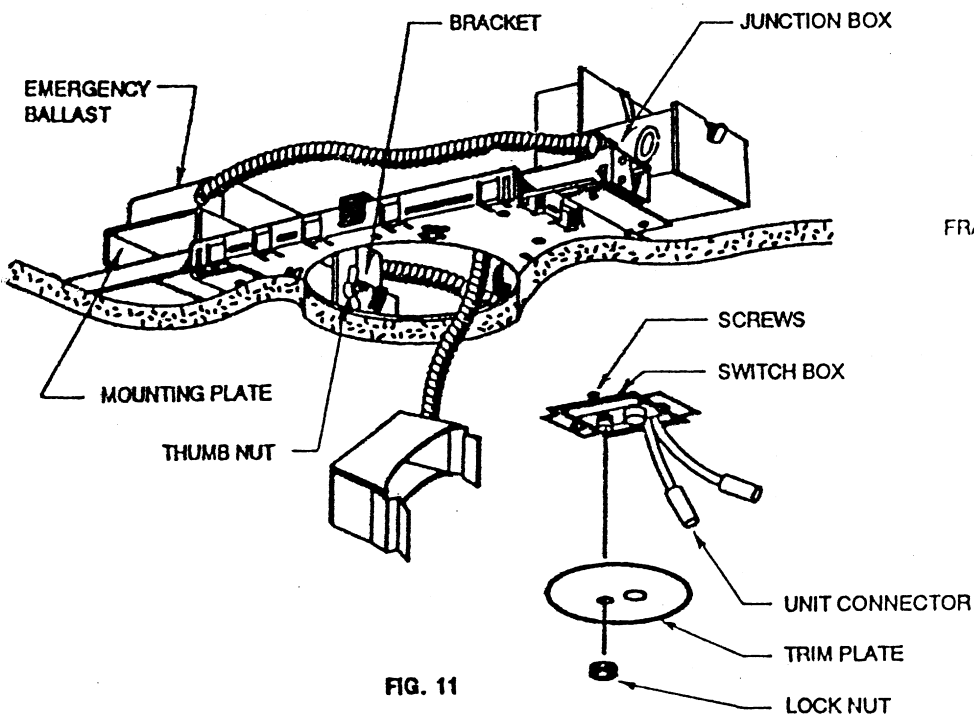

FIG. 11
2. Remove TRIM PLATE by removing LOCKNUT; disconnect UNIT CONNECTOR, loosen SCREW on side of SWITCH BOX and slip SWITCH BOX onto the ceiling (Fig. 11).
3. Loosen THUMB NUT and rotate BRACKET away from EMERGENCY BALLAST ASSEMBLY (Fig. 11).